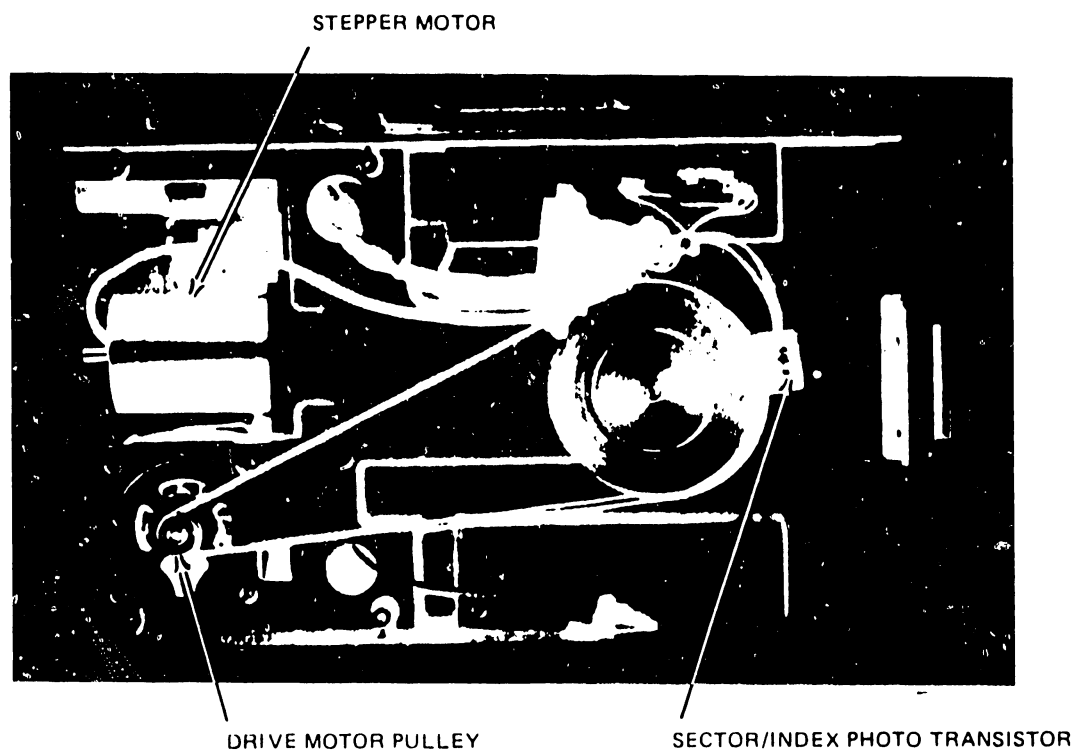

Figure 5 Sector PhotoTransistor
- c. Adjust the potentiometer on the Index/Sector phototransistor to obtain a pulse of 1.7 msec. \pm .5 msec. duration (Figure 5).